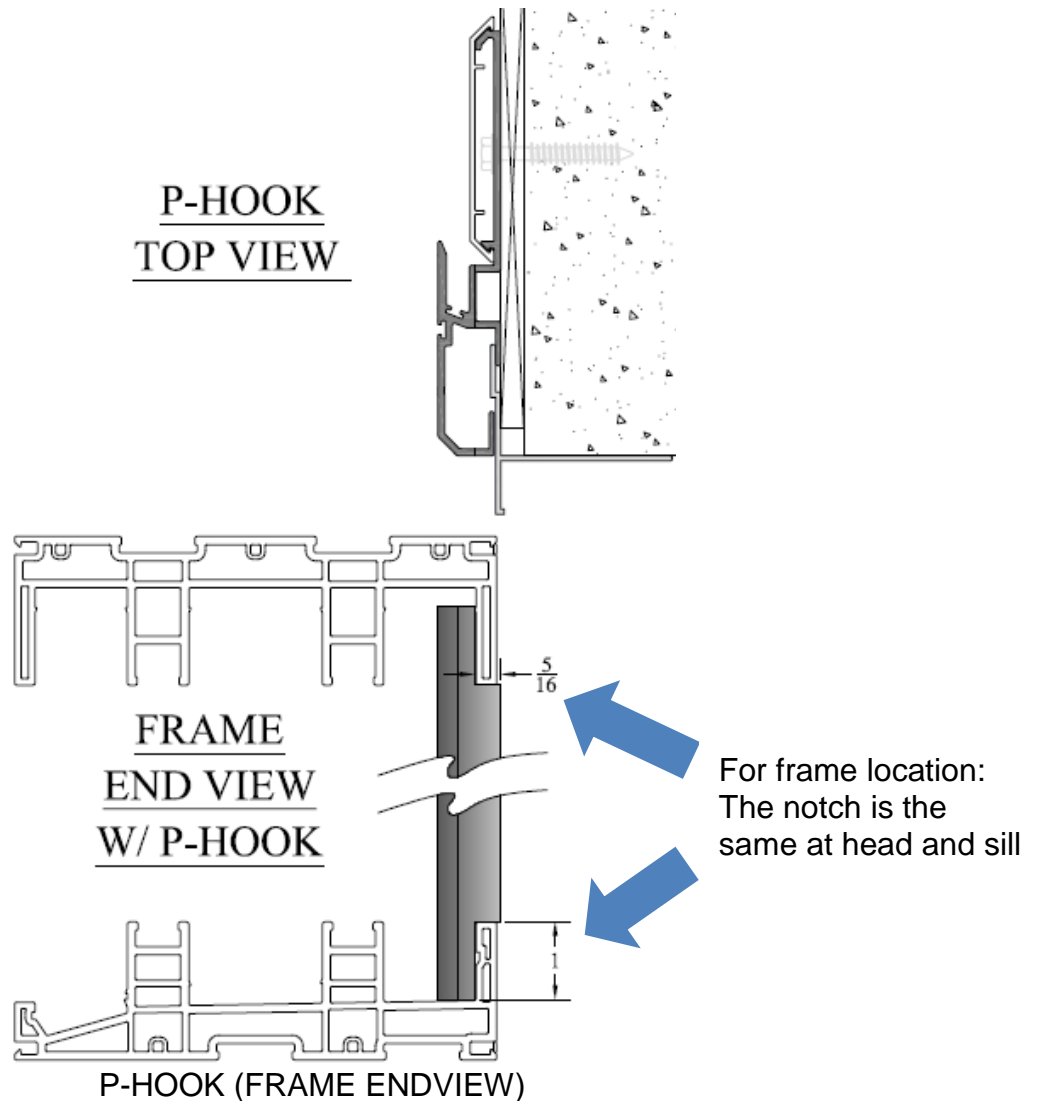

Figure 15
- 3) The P-hook is notched so that the exterior side projects into the head and sill. The notched area sits on top of the sill and just under the header. Below is a P-hook assembly (See Figure 15 below)
- 4) To set the location of the p-hook relative to the opening, align it against the riser. If the riser was already installed before assembly. If not locate the interior edge of the p-hook even with the opening or edge of recessed wall. (See Figure 15)